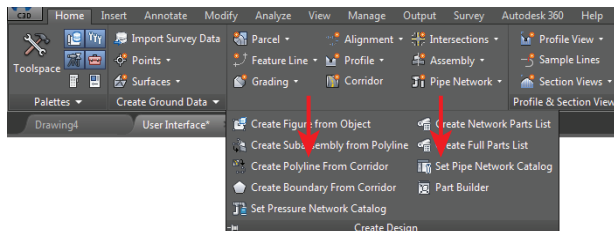

FIGURE 1.5 Most panels expand downward to reveal more commands, as is the case with the Create Design panel on the Home tab of the ribbon.
One other thing you should know is that most panels expand downward to show you the less frequently used commands in a particular category. You'll know that a panel expands when you see a downward-pointing white triangle next to its name. For example, Figure 1.5 shows the Home tab's Create Design panel expanded with more commands. Don't forget to look on these hidden panels when searching for commands.
3. Click the downward-pointing white triangle at the bottom of the Create Design panel and note how it expands down, as shown in Figure 1.5.